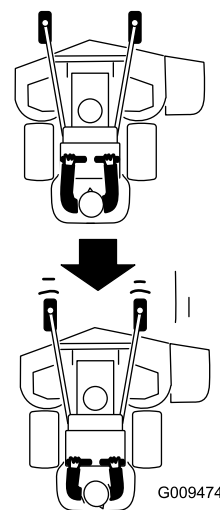

Figure 23
- Slowly pull the motion control levers rearward (Figure 23).